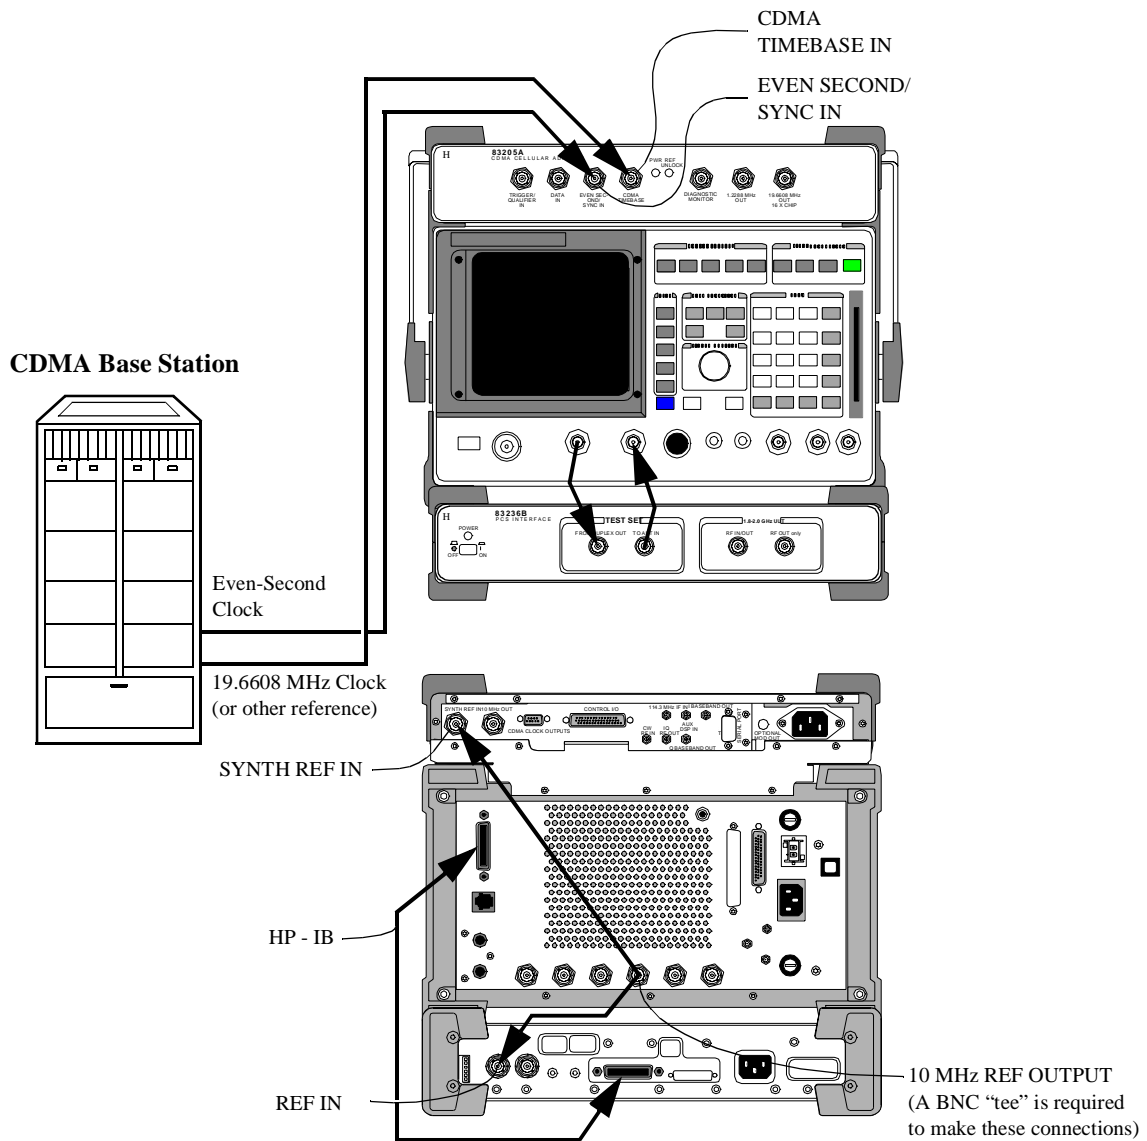

Figure 25
- 1 Connect the timebases as shown in figure 25. Note the connections from the BNC “tee” on the Test Set’s 10 MHz REF OUTPUT to both the Cellular Adapter *and* the PCS Interface.